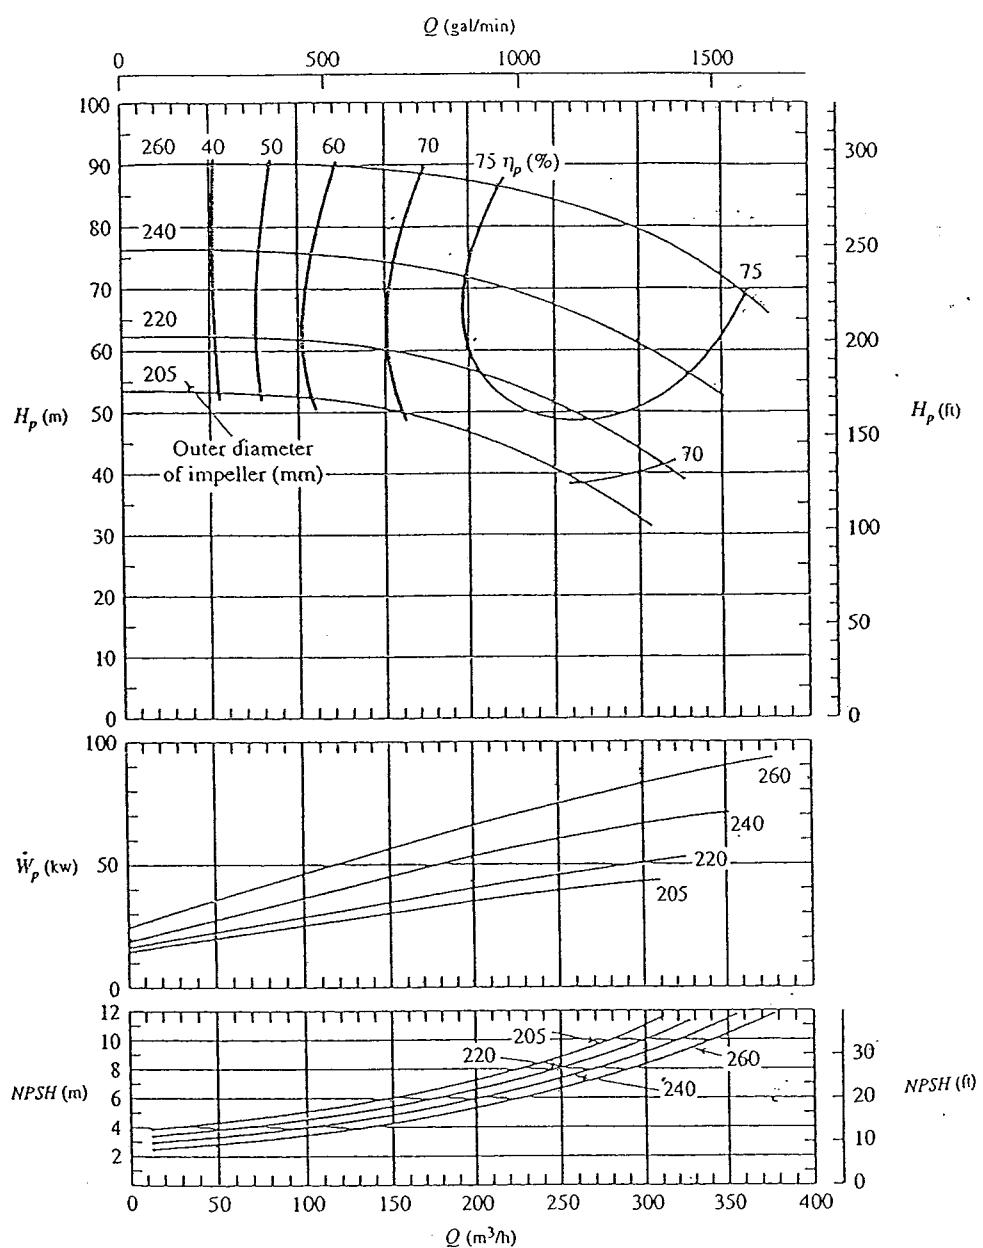

Figure 6.1 Radial-flow pump and performance curves for four different impellers with $N = 2900$ rpm, $\omega = 304$ rad/s. Water at 20°C is the pumped liquid.
6. Prepare dimensionless performance curves for the 205-mm-diameter radial flow pump of Figure 6.1. Compare these with the curves shown in Figure 6.2. Can you explain why there may be differences between the two sets of curves?